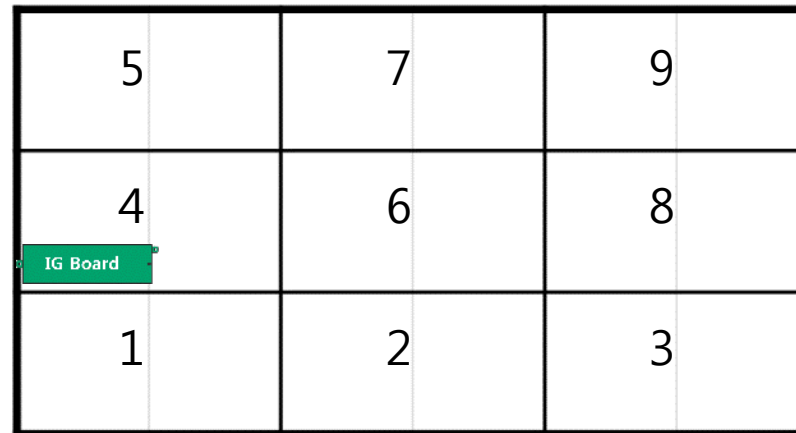

Fig1. Location to Fix the I/G and Order of Installing the Cabinet
① Install I/G first on the back side of the Cabinet of each Type. (Fig.1)